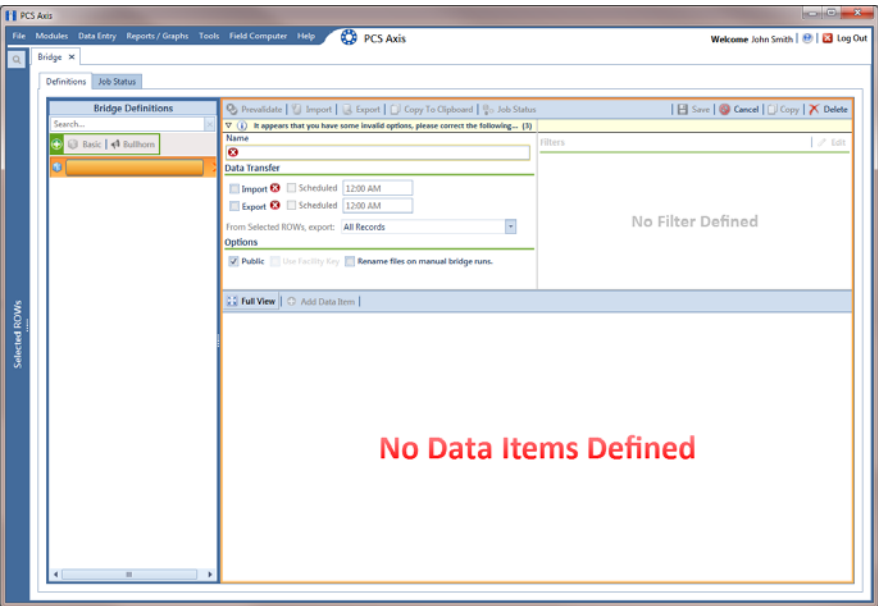

Figure 10-14. Basic Bridge Definition
- 3 Click  **Basic** to open the basic definition panel (Figure 10-14).